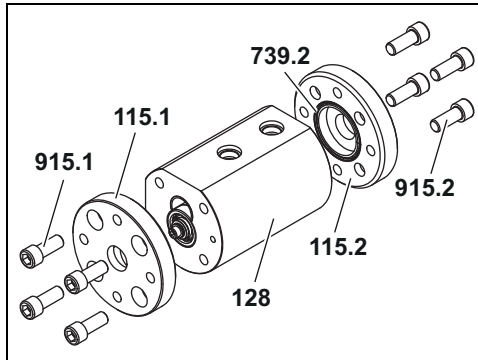

Fig. 6
1. Remove the socket screws **915.1** and **915.2**, flanges **115.1** and **115.2**, see Fig. 6, page 32.